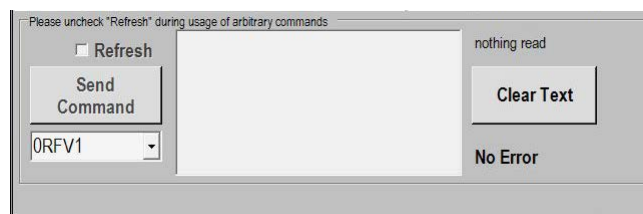

Fig.6: Command section of User Interface
- Make sure the Refresh Box is unchecked (as in fig. 6)